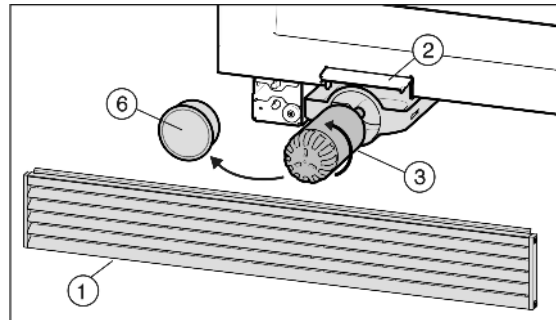

Fig. 5
- ▶ lift the ventilation grid *Fig. 5 (1)* up and pull out.
- ▶ Open the filter change flap *Fig. 5 (2)*.
- ▶ Pull the water filter carriage *Fig. 5 (3)* out.
- ▶ Remove the filter cover *Fig. 5 (6)*.
- ▶ Turn the water filter *Fig. 5 (3)* about 100° anti-clockwise and pull out.